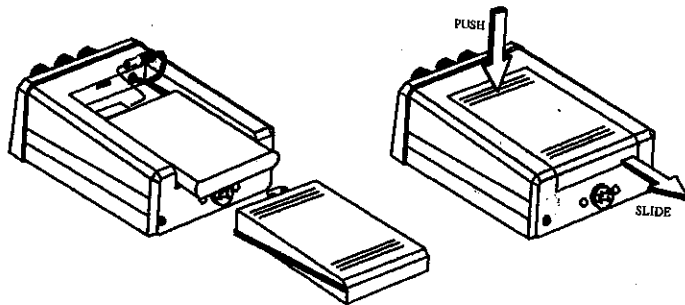

Figure 3 - Installing the battery
- B. Slide the battery lid from the detector by pushing down and sliding back (refer to figure 3).